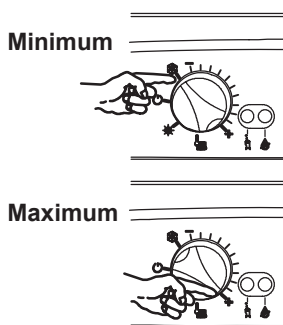

Fig. 2.6
The output temperature of c.h. water is adjustable from a minimum of about 40°C to a maximum of about 85°C (Fig. 2.6), by turning the function selector (8).